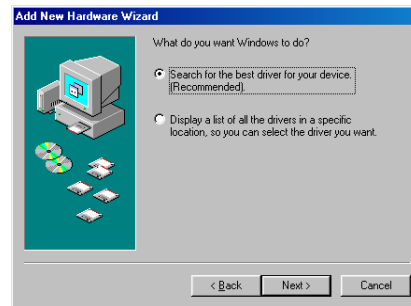

Figure 2
- (3) Choose “Search for the best driver for your device. (Recommended)” to find the proper driver automatically (Figure 2).